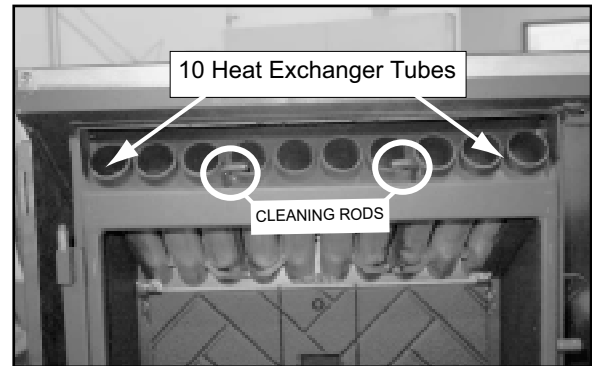

Figure 30.1
- b. Pull firepot cleaning rod OUT a couple of times to help shake debris loose. **See Figure 30.1 on page 30.** If rod is hard to pull, it may be necessary to use your firepot clean-out tool to chip away material that has built up on the bottom plate of the firepot and to push out any clinkers. Larger clinkers may have to be removed from the top of the firepot. Corn clinkers can be especially difficult to break up.